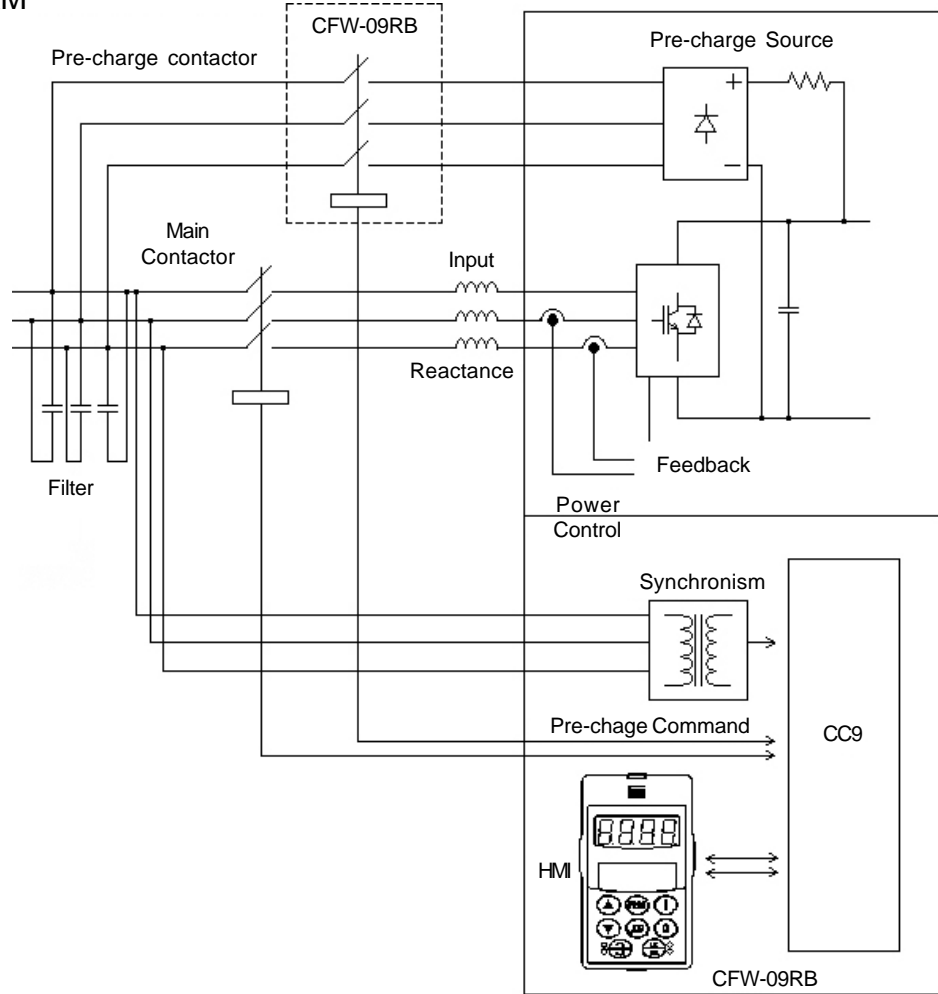
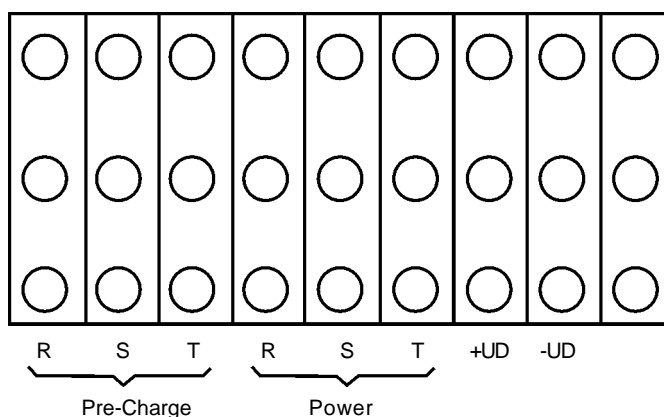

Figure 1.23 - Simplified CFW-09RB Block Diagram
Figure 2.1 - Typical CFW-09RB terminal
Figure 1.23 shows a simplified CFW-09RB block diagram.
- ☑ The CFW-09RB terminal connection are similar to the CFW-09 terminal connection, but their identification and use are different (Fig. 2.1).
- ☑ The first three terminals at the left of Figure 2.1 are used for the pre-charge and cooling supply. It is very important that this supply connection comes from the capacitive filter connection (see figure 1.23) and not from the power connection, where the IGBT's switching will interfere in the fan operation and give rise to overheating of the system.